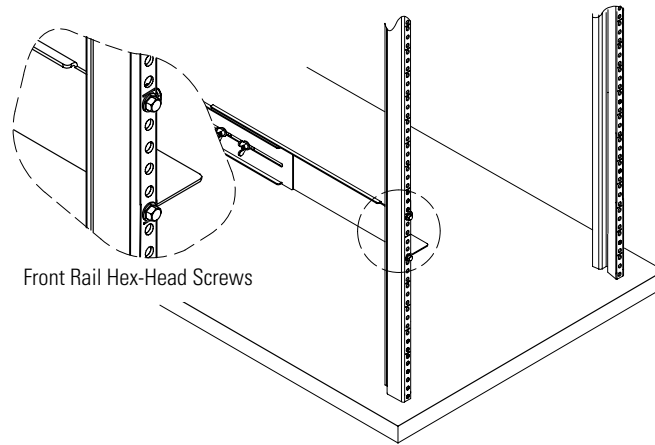

Figure 3. Securing the Front Rail
3. Secure the rail to the front of the rack with two hex-head screws (see Figure 3).